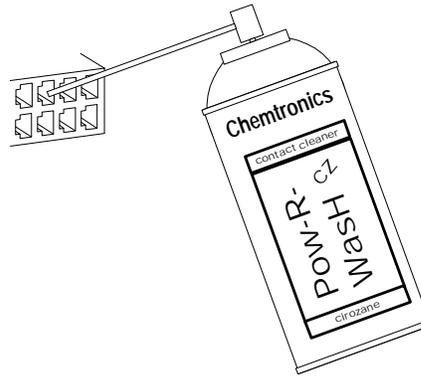

Figure 1
3. **Clean** each terminal using Chemtronics® contact cleaner "Pow-R-WasH CZ " as shown in Figure 1.